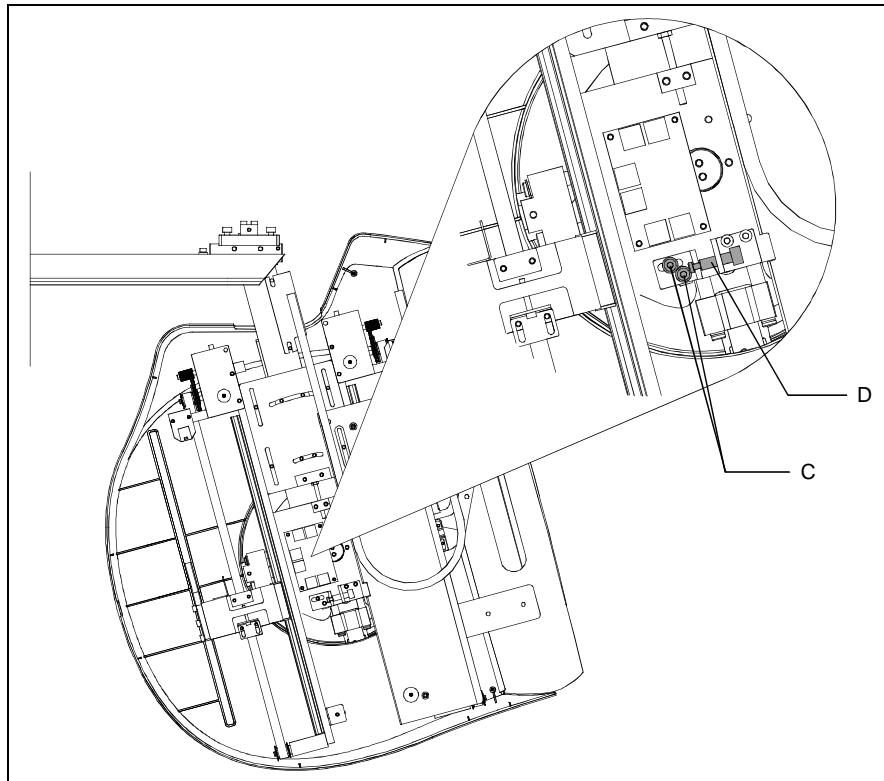

Figure 9-24
22. To adjust the horizontally alignment between the two rings, loose the two screws "C" (Figure 9-24) and rotate the ear rings support group acting on screw "D". Once the aligned position has been reached (test exposures are required), tighten screws "C".